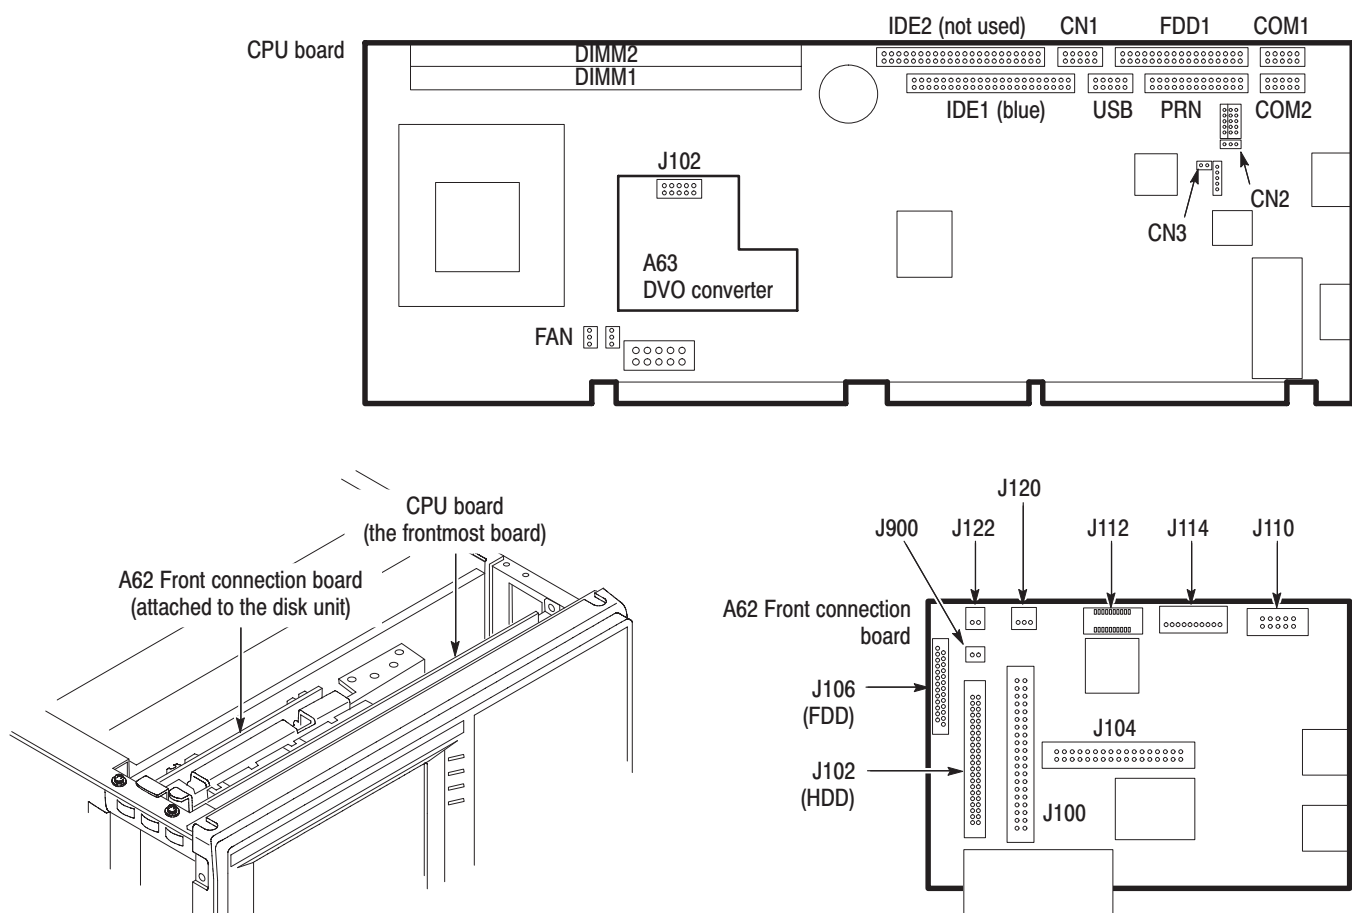

Figure 8: Connector location on the CPU and A62 boards
1. Disconnect cables. Use Figure 8 as a guide.
- d. Unplug the cable from the connector J100 on the A62 Front connection board (see Figure 8 on page 12). Discard this cable.
2. Unplug the cable from J102 on the A62 Front connection board (see Figure 8 on page 12) and from the hard disk drive. Discard this cable.
3. Unplug the floppy driver connector (ribbon interconnect cable) from J106 on the A62 board (see Figure 8 on page 12). Remove the board.
4. Connect the hard disk cable assembly to the IDE1 connector on the CPU board and J900 on the A62 Front connection board. See Figure 8 on page 12 for the connector location.